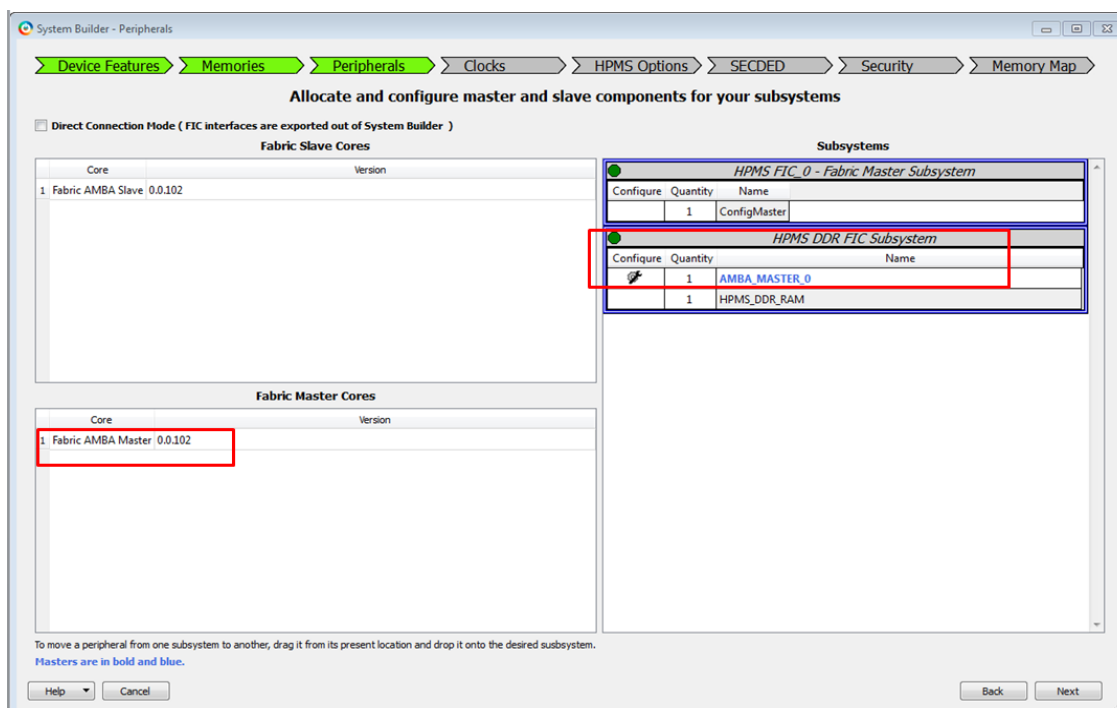

Figure 10 • Peripherals Tab with the Fabric AMBA Master Added
- In the **Peripherals** tab, drag the **Fabric AMBA Master** and drop on to the HPMS DDR FIC subsystem. The **AMBA_MASTER_0** is added to the subsystem and the Interface Type is configured as AXI. Figure 10 shows the **Peripherals** tab with the **AMBA_MASTER_0** added.